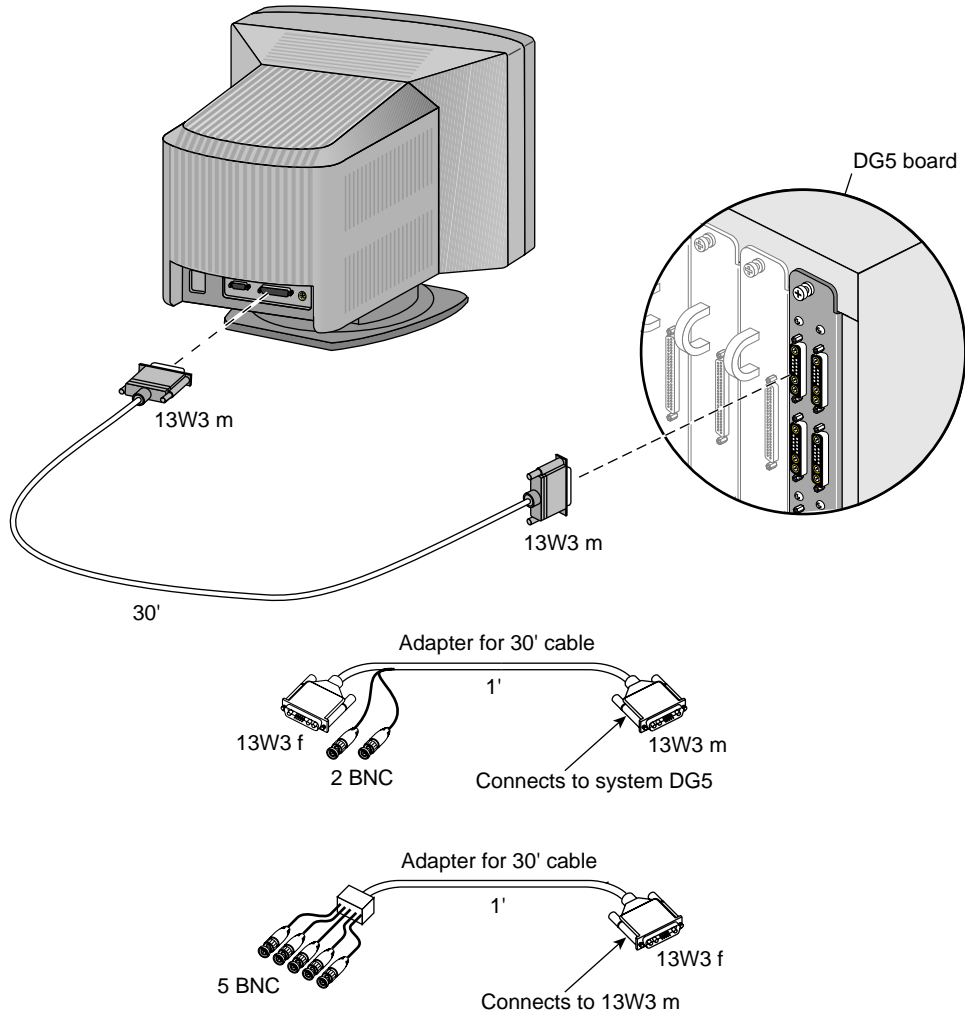

Figure 3-11 13W3 Monitor Cable and Adapters
- 13W3-five BNCs: separate connectors for R, G, B, horizontal sync, and vertical sync for monitors that require these separate connectors (see Figure 3-11)